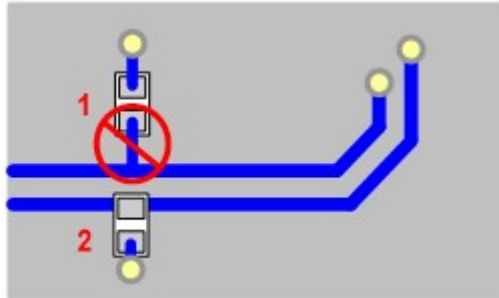

Figure 5
- Stubs on USB 2.0 differential pair as Figure 5 should be avoided. While stubs exist, it will cause signal reflection and affect signal quality. If a stub is unavoidable in the design, should be as shorter as possible.
- Route the SPI-bus traces as straight as possible as Figure 1. Stubs on SPI-bus traces as Figure 5 should be avoided.